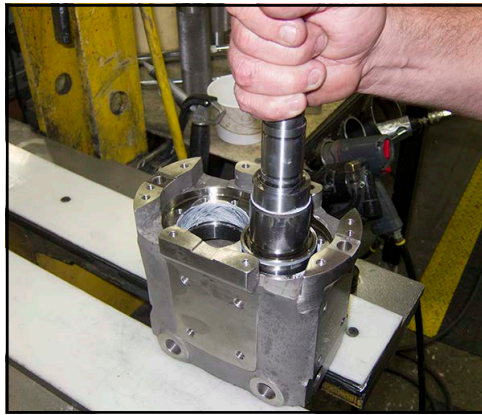

Figure 197 - Place short shaft in bore
3. Place the short shaft into the shaft bore, right-hand side as shown in Figure 197.
NOTE: In Figure 197, the gear case is positioned on end; the bottom of the gear case (with 4 holes for the mounting foot), facing toward the camera. The top of the gear case (the side with the nameplate and hole for the oil breather plug) is facing away from the camera.
NOTE: The UTS pump can only be mounted in one direction, so the shafts must be installed in the respective shaft bores as shown in Figure 197.